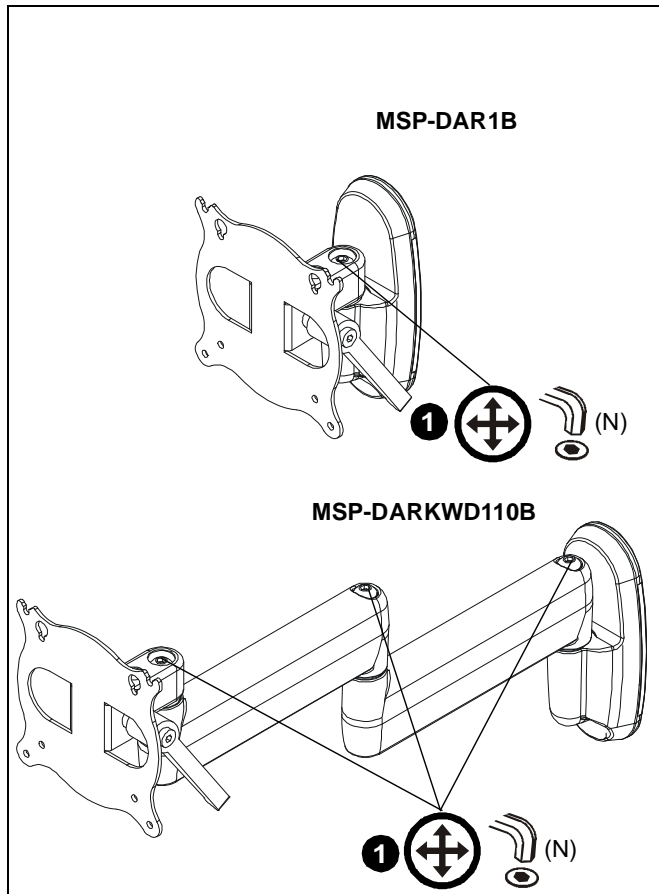

Figure 9
1. To adjust pivot tension, slightly loosen or tighten adjustment screws using hex key (P). (See Figure 9) Adjust screws ONLY as required to achieve desired tension.